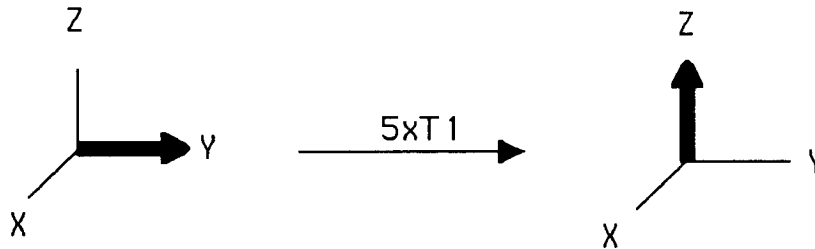

Figure 5
The optimum recycle delay must be computed by rearranging the equation to give $RD = TT - AT$. The total time is important to ensure complete relaxation of the nuclear spins between scans; incomplete relaxation causes loss of signal and is one cause of inaccurate integrations. The relaxation time for a nucleus is called T1 (longitudinal relaxation time) and normally, when a 90 degree pulse width is used to excite the spins (Figure 2a), a total time (TT) of $5 \times T1$ is necessary in order to have complete relaxation (see Figure 5). If a pulse width less than 90 degrees is used, the total time can be proportionally less.